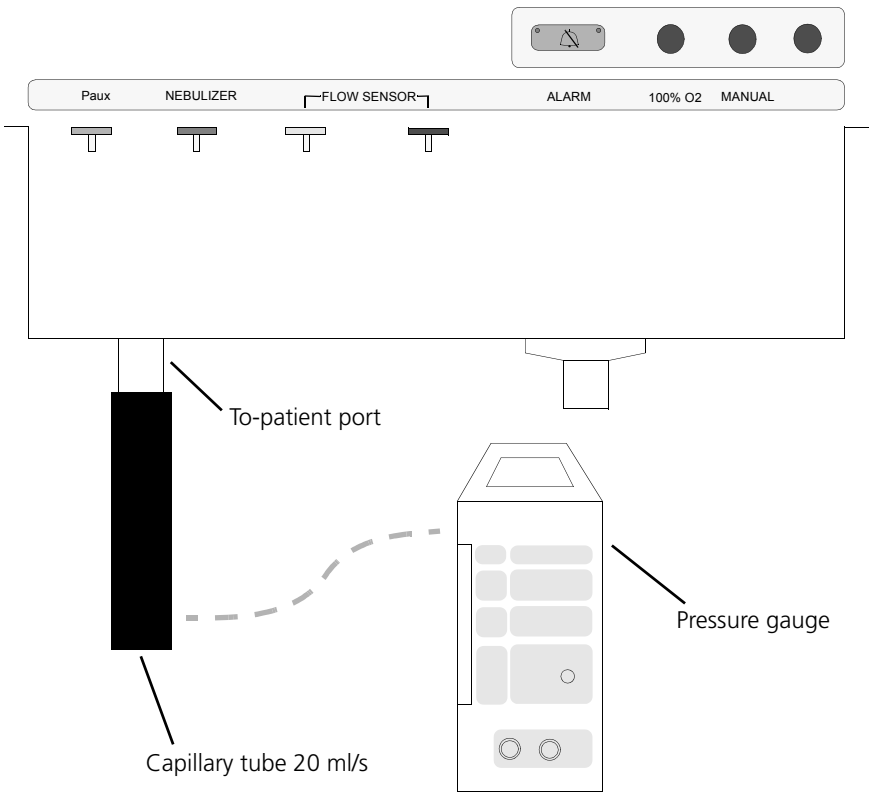

Figure 9-30. Setup for the inspiratory-valve airtightness check
1. Connect the 20 ml/s capillary tube and the pressure gauge as shown in Figure 9-30 below.